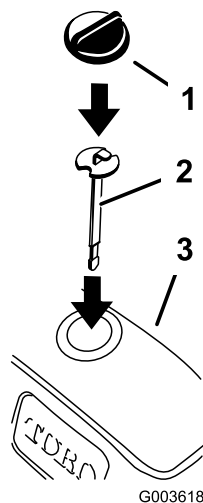

Figure 37
3. Insert the new dipstick and check the level of the hydraulic fluid (Figure 37).